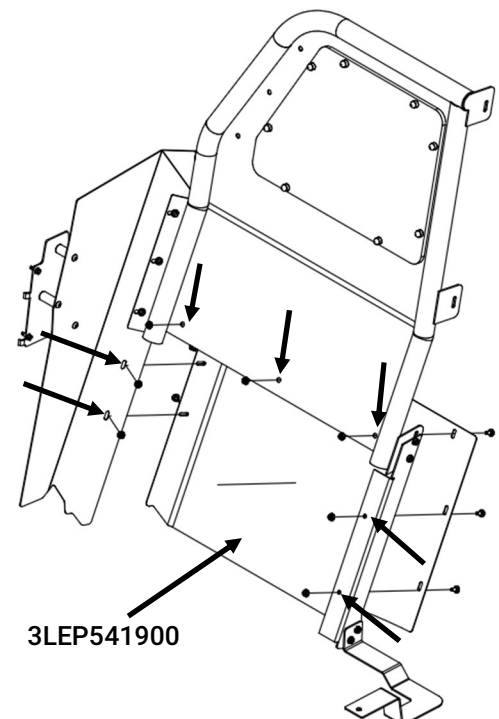

Figure 6
- A. Place the passenger seat protector [3LEP541900] into the vehicle and align the three holes at the top of the panel, two holes along the outside of the panel and two holes at center with their respective holes in the partition, mounting plate and center support. The seat protector flange fastens to the inside of the mounting plate. (Fig 6).
- B. Loosely install a carriage bolt [3X36] with whiz nut [3X16Z] into each of the (7) holes identified in the previous step. Install the fasteners such that the smooth head of the carriage bolt is facing towards the rear of the vehicle.
- C. Adjust the partition forwards or backwards until a desirable fit is achieved between the mounting plate and the partition then tighten the fasteners holding the partition to the mounting plate. These are the fasteners that were loosely installed in section VIII, step (B).
- D. Have a second person hold the partition against the headliner of the vehicle while the first person tightens the (3) button head screws [3X149] holding the mounting plate to the b-pillar brackets. These are the fasteners that were loosely installed in section VI, step (B).
- E. Adjust the seat protector and center bracket to achieve the desired fitment and then tighten all (7) fasteners in those components.